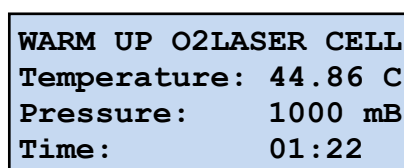

Figure 25. Warm-up screen.
1. When the LE405 unit has just been switched on, press the  button when you see the **Warm up** screen (see Figure 25). Then you will access to the configuration menu (see Figure 47 on page 39).
6. From the **Switching Unit** screen press the  button to accept and return to the **Warm Up** screen (see Figure 25).